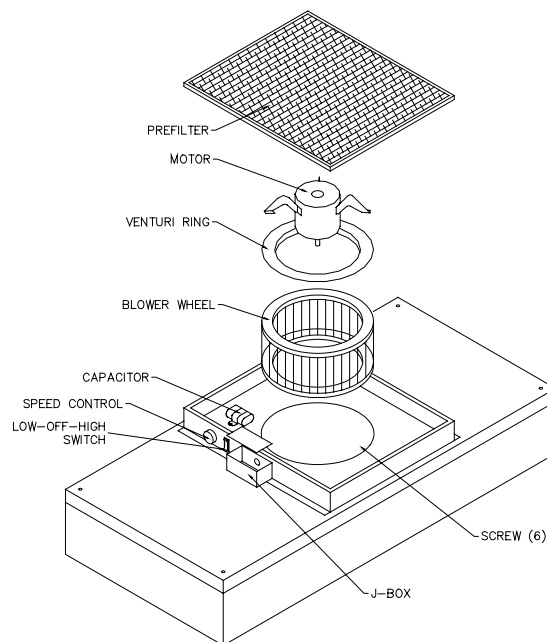

Figure 3
Step 3. Remove the J-Box cover retaining screws and electric box cover and lift both covers off. (See Figure 3)